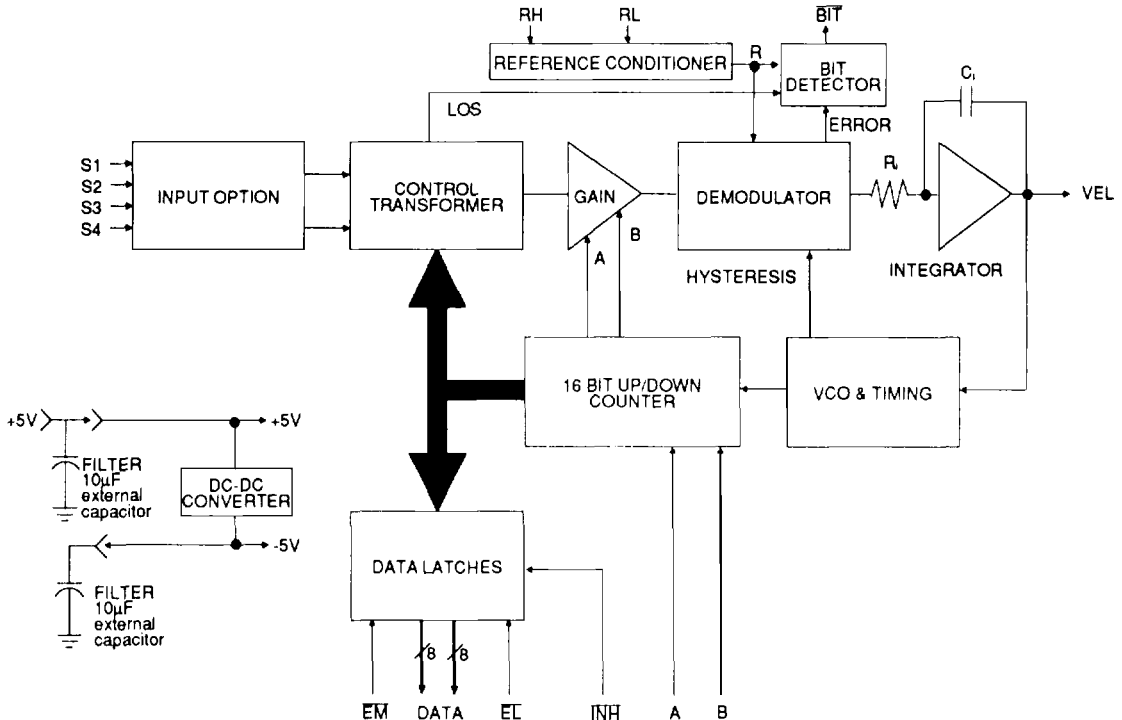

FIGURE 1. SDC-14620 BLOCK DIAGRAM (one channel)
Figure 1 is the Functional Block Diagram of SDC-14620 Series. The converter operates with a single +5Vdc power supply and internally generates a minus voltage of approximately 5 volts. This minus voltage comes out on pin 24(channel 'B' filter point) and pin 52(channel 'A' filter point) — see GENERAL SETUP CONSIDERATIONS. Analog signals are referenced to analog ground, which is at ground potential. The converter is made up of three main sections; an input front-end, a converter, and a digital interface. The converter front-end differs for synchro, resolver, and direct inputs. An electronic Scott-T is used for synchro inputs, a resolver conditioner for resolver inputs and a sine and cosine voltage follower for direct inputs. These amplifiers feed the high accuracy Control Transformer (CT). Its other input is the 16 bit digital angle ϕ . Its output is an analog error angle, or difference angle, between the two inputs. The CT performs the ratiometric trigonometric computation of $\text{SIN}\theta\text{COS}\phi - \text{COS}\theta\text{SIN}\phi = \text{SIN}(\theta-\phi)$ using amplifiers, switches, logic, and capacitors in precision ratios.